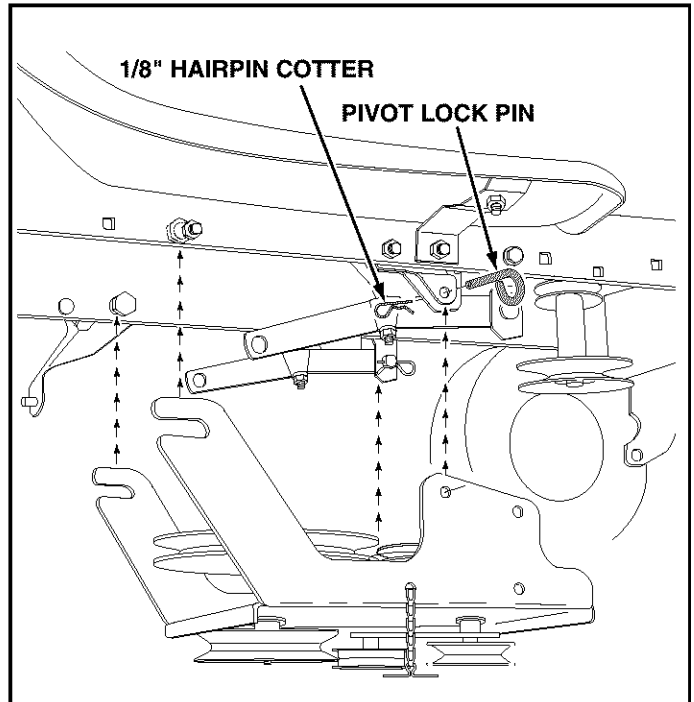

FIGURE 21
- Attach the clutch/idler assembly to the tractor frame by sliding the notched rear arms of the assembly onto the two shoulder bolts placed on the inside of the tractor frame. Lift the front of the assembly so that the sides fit inside the R.H. and L.H. hanger brackets. Attach the assembly to the brackets using two pivot lock pins and 1/8" hairpin cotters. See figure 21.